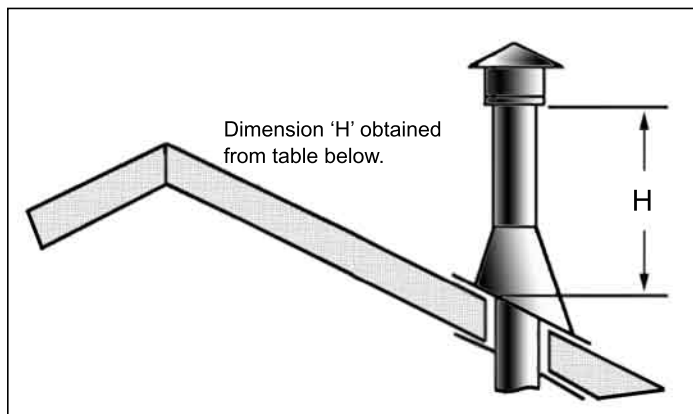

Figure 16: Height of Vertical Termination; Reference Table 3.
Table 3: Minimum 'H' for Figure 16
STEP 8. Continue to add pipe sections until the height of the vent cap meets the minimum code requirements. Refer to Figure 16 and Table 3. Note that for steep roof pitches, the vent height must be increased. In high wind conditions, nearby trees, adjoining roof lines, steep pitched roofs, and other similar factors can result in poor draft, or down drafting. In these cases, increasing the vent height may solve the problem.